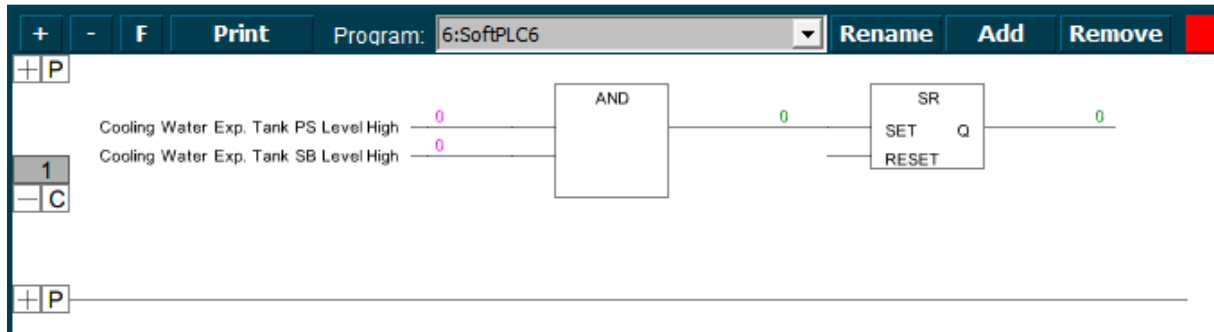

Figure 1-15: Example 3
Now we want the pump we are going to add to be started as both fields are true (1). But we cannot only set the pump, we also need to reset it. So at the right side after the "0" we will put a set/reset box. Click and choose "Function" and "SR" you'll get a set/reset box (see Figure 1-15).